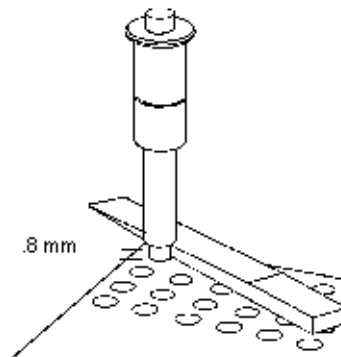

Figure 5-10. Z Height Adjustment in Tip Rack
4. Using a metric feeler gauge (Wedge Gauge), measure for 0.8 mm gap between the bottom edge of the alignment tool (second cut) and the top of the Tip Rack. See Figure 5-10.
3. Alignment Tool moves to Tip Rack 2 position MF. See Figure 5-10.